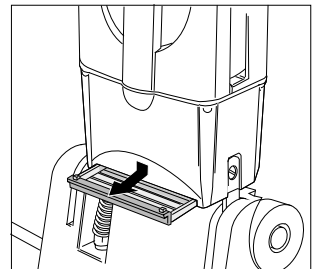

Figure 9
5.3 Exchanging the exhaust filter <Figure 9>